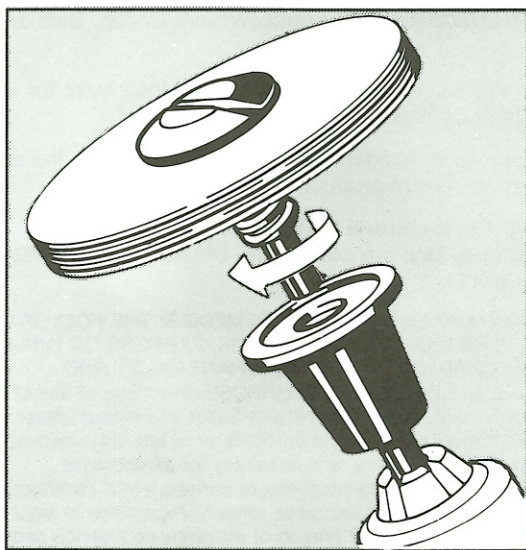

Figure 1
2. Twist discs assembly into the holder. Be certain assembly is securely tightened. See Figure 1.